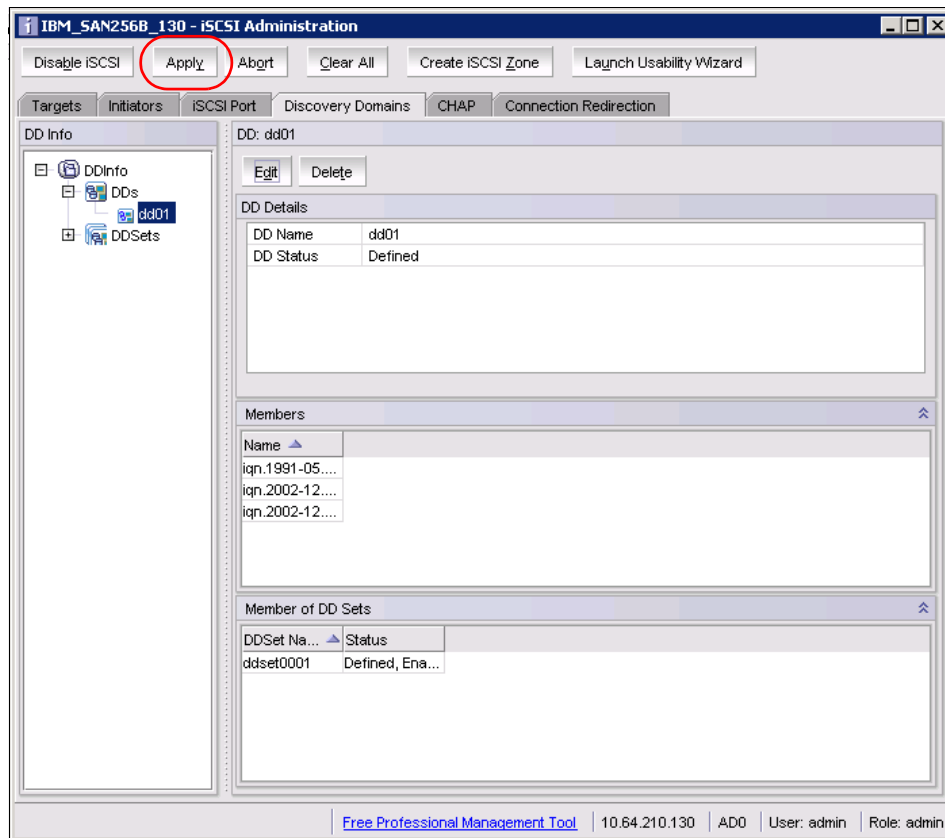

Figure 11-53 Apply DD modifications
11. At the main window (Figure 11-53), we click **Apply** to commit the new configuration.